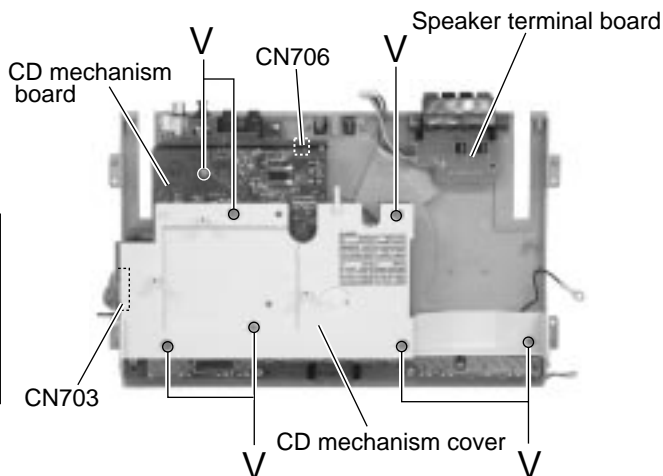

Fig.34
■ Removing the CD mechanism board / mechanism assembly (See Fig.34 to 39)